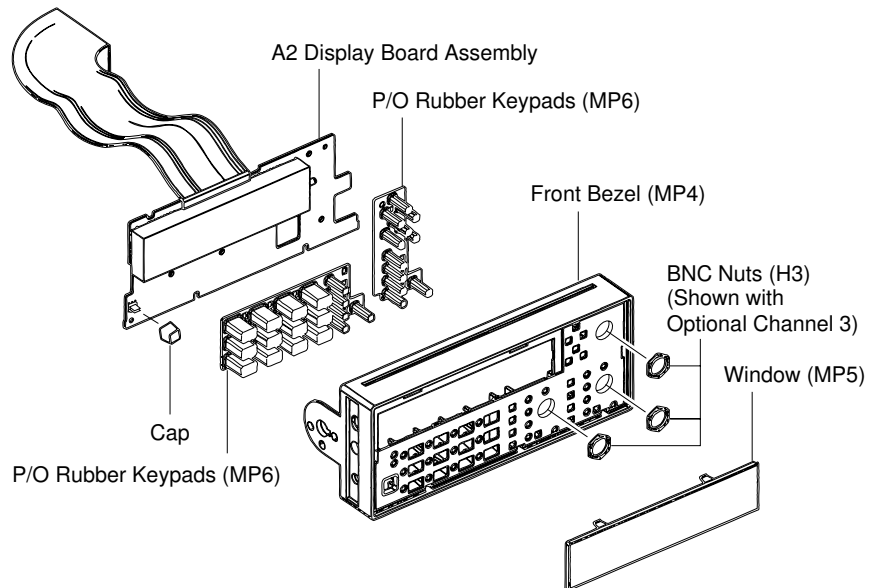

Figure 3-7. A2 Display Board, Keypad, and Window Removal
### 3 Note that A2 Display Board Assembly, shown in Figure 3-7, is held in place by five tabs (two on top and three on bottom) which are part of the front bezel.
- 8 As shown in Figure 3-7, the rubber keypads (MP6) are now free. Just pull them out of the bezel.**
- 9 Remove the window (MP5), shown in Figure 3-7, by pressing down on the two top tabs and sliding the window forward.**